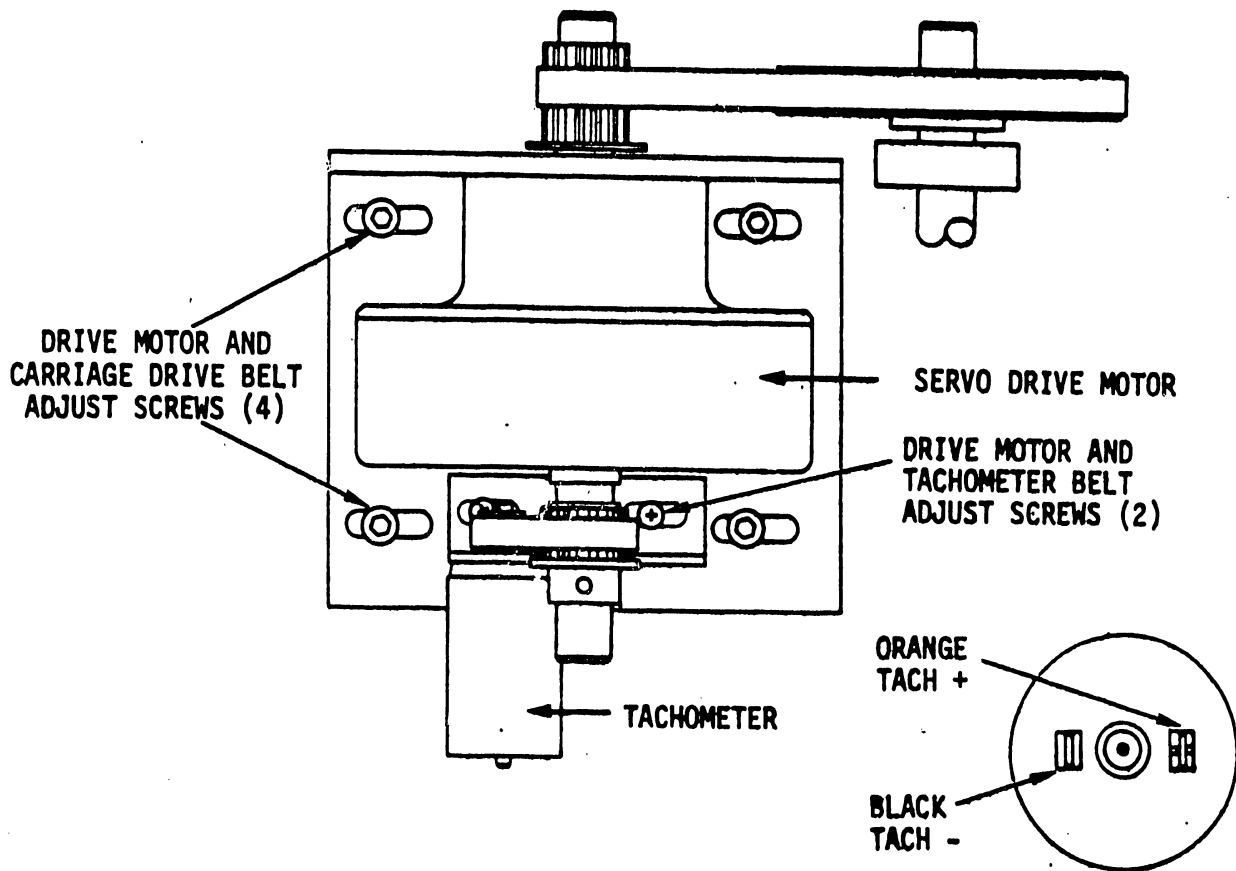

FIGURE 5-31 DRIVE MOTOR AND TACHOMETER BELT ADJUSTMENTS
- 1) Drive Motor and Tachometer Belt - Loosen two Phillips screws under tachometer and move it in desired direction as shown in Figure 5-31.
- 2) Drive Motor and Carriage Drive Belt - Loosen four Allen screws holding tachometer/servo assembly and move assembly in desired direction. See Figure 5-31.